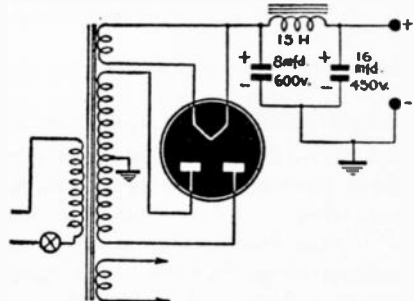

Fig. 503-b
A. The a.c.-d.c. power supply is shown in Fig. 503-a. The tube is the 25Z6 you have on hand.